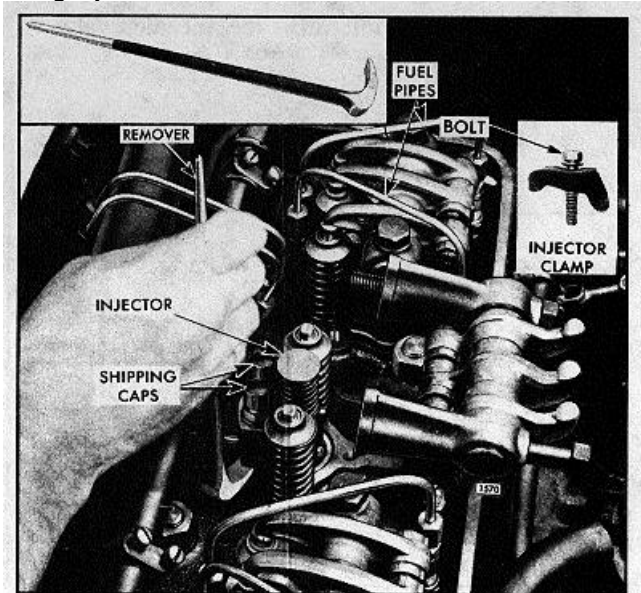

Fig. 7. Removing Injector from Cylinder Head
4. Remove the two rocker shaft bracket bolts and swing the rocker arms away from the injector and valves (Fig. 7).